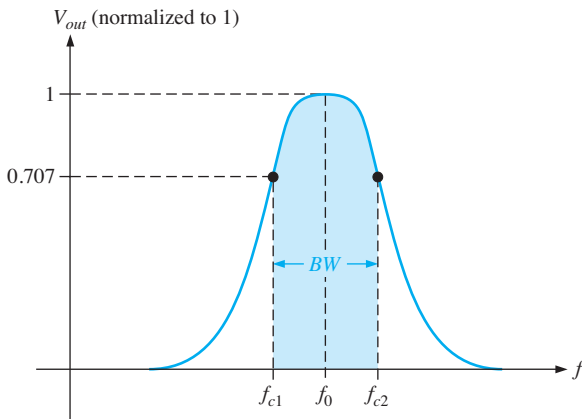

FIGURE 9-3 General band-pass response curve.
A **band-pass filter** passes all signals lying within a band between a lower-frequency limit and an upper-frequency limit and essentially rejects all other frequencies that are outside this specific band. The high-frequency tuned amplifiers introduced in Section 5-2 used tuned circuits as band-pass filters. A generalized band-pass response curve is shown in Figure 9-3. The *bandwidth (BW)* is defined as the difference between the upper critical frequency (f_{c2}) and the lower critical frequency (f_{c1}).